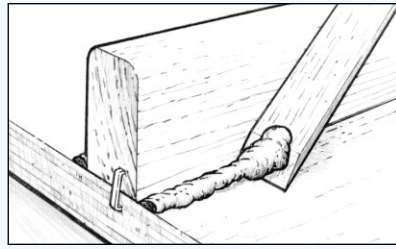

Figure 12 Remove or shape excess epoxy that squeezes out of the joint.
4. Remove or shape excess adhesive that squeezes out of the joint as soon as the joint is secured with clamps. A WEST SYSTEM 804 mixing stick with one end sanded to a chisel edge is an ideal tool for removing the excess (*Figure 12*). Allow to cure thoroughly before removing clamps.